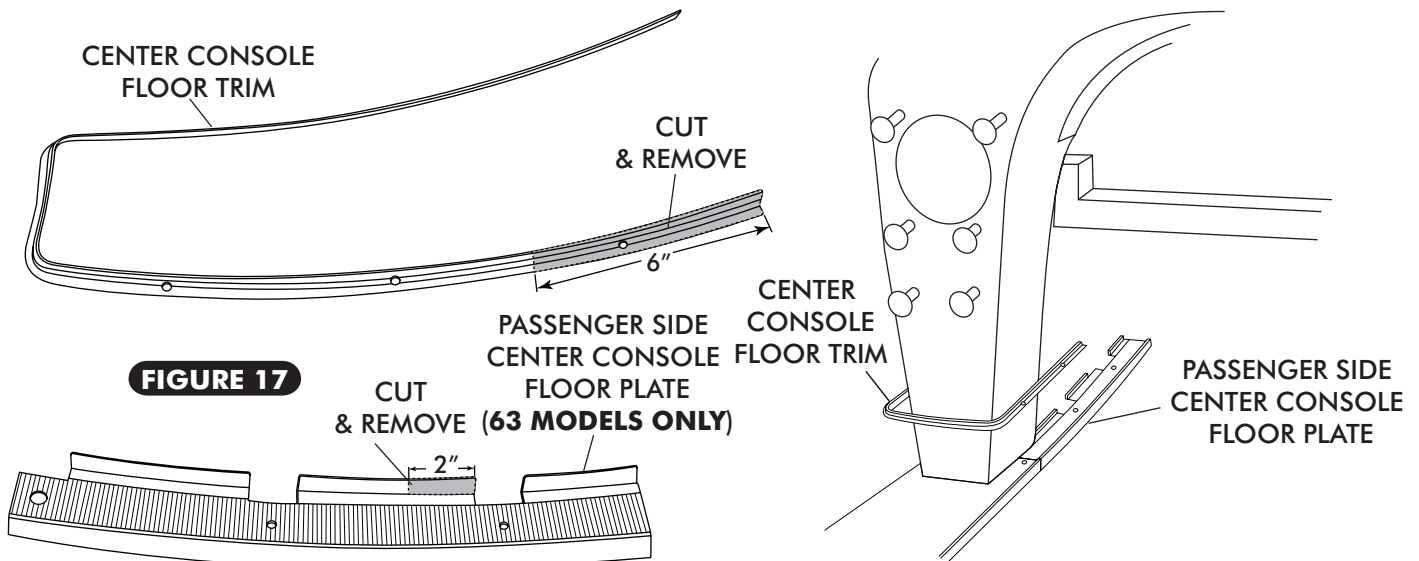

FIGURE 17
- CUT & REMOVE 6" FROM CENTER CONSOLE FLOOR TRIM AS SHOWN BELOW IN FIGURE 17.